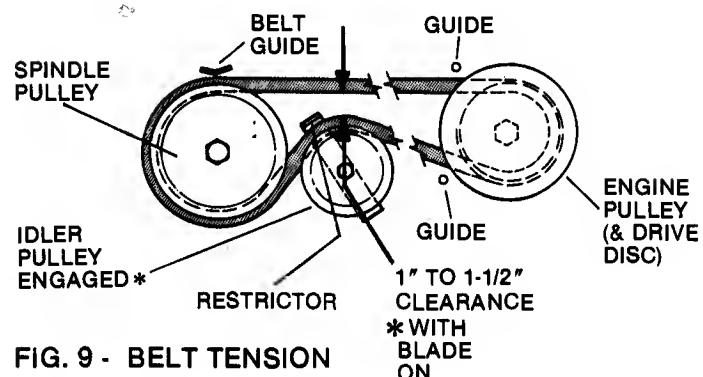

FIG. 9 - BELT TENSION
With the mower deck in #5 height position and the blade in the ON position, check the distance between the inside surfaces of the belt as shown in FIG. 9. The belt tension is adjusted by changing the "distance" between the front axle and the rear case. Loosen nut (Y) at the main tube clamp (X) beneath the main channel (under seat) and pull the front assembly FORWARD to increase belt tension until the correct amount is achieved. Then retighten nut (Y).
If belt becomes frayed, cracked, or worn, replace as follows: Remove the BELT COVER, then cut and remove the old belt. To install new belt, close fuel cap (10-C) valve. Stand mower on REAR BUMPER (14-C), shift into NEUT. position, work belt between discs, shift into #5 speed and push belt over edge of engine drive disc. Work into the groove of the drive disc, then connect other end to pulleys on mower deck as follows: Loosen or remove the idler pulley, loop the belt around spindle pulley as shown in FIG. 9 and work belt between restrictor and idler pulley. Make sure locking tab on restrictor is engaged in idler arm before securing idler arm nut and bolt. Check and adjust belt tension as needed before reinstalling BELT COVER.